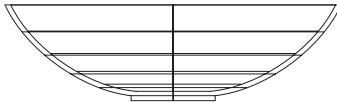

Fig. 14.18 Second example – 3D Mirror – the 3D model
First example – 3D Mirror (Fig. 14.18)
1. Construct a solid of revolution in the shape of a bowl in the **ViewCube/Front** view working on a layer of colour **yellow** (Fig. 14.18).